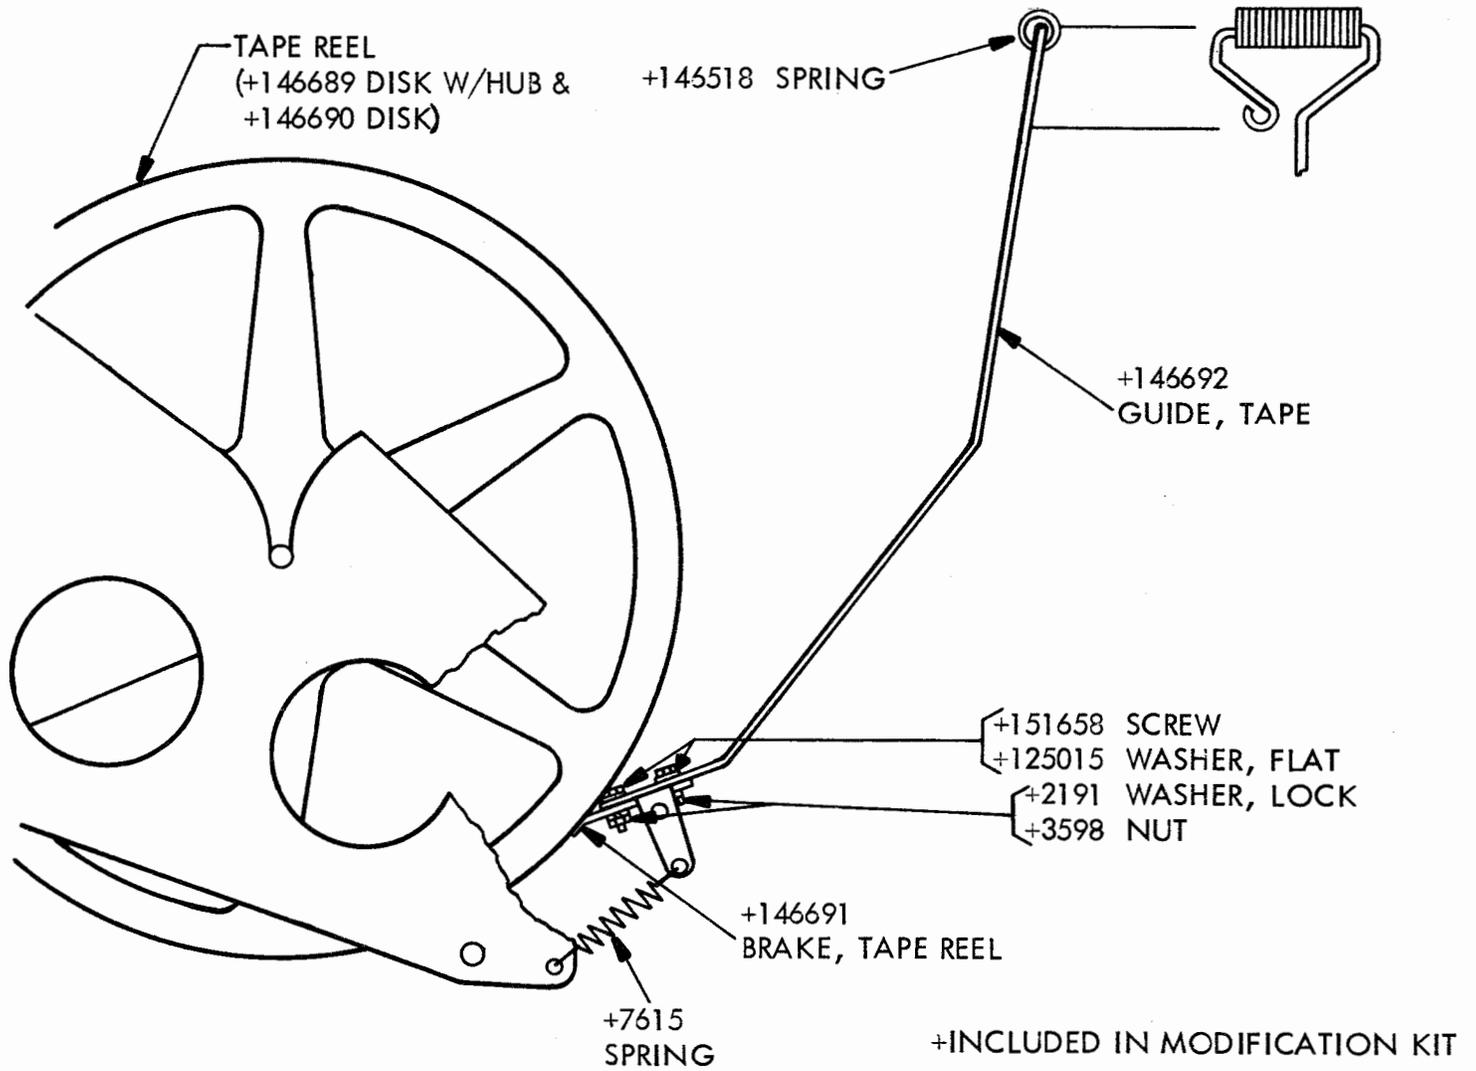
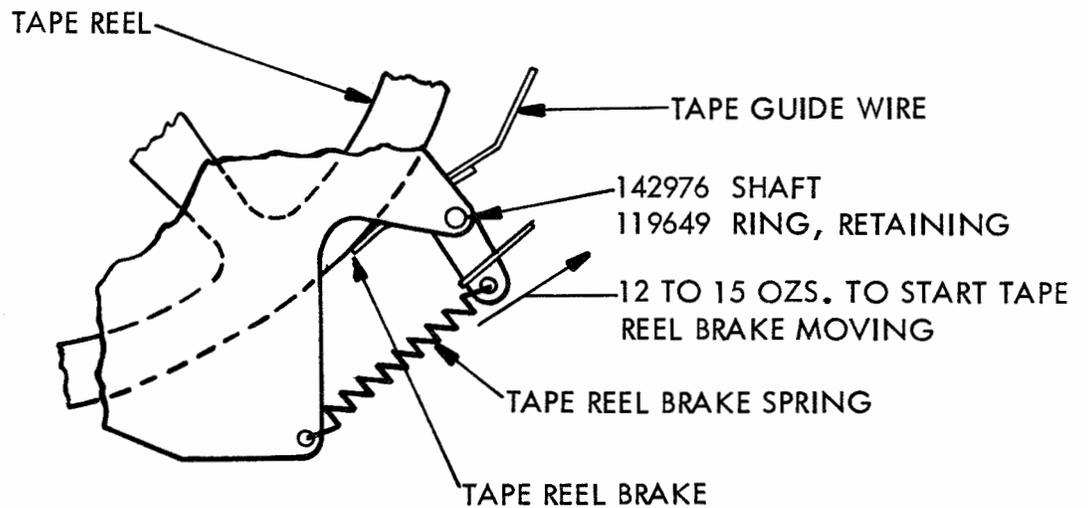

FIGURE 2
FIGURE 3
f. Assemble the 146518 Spring to the 146692 Tape Guide as shown in Figure 2. Secure the 146692 Tape Guide to the 146691 Brake using the two 151658 Screws, 125015 Washers, 2191 Lock Washers and 3598 Nuts. See Figure 2.
m. Install the new brake assembly using the 142976 Shaft and 119649 Retaining Ring retained in Paragraph 2.e. See Figure 3. Hook the 7615 Spring to the brake and the 124375 Front Plate as shown in Figure 2.
n. Place the tape reel (146689 Disk w/Hub and 146690 Disk assembled) in the tape reel retainer assembly. See Figure 2.
- (1) Low Tape Contacts.
- (2) Low Tape Contact Bracket.
- (3) Tape Reel Brake Spring Requirement (See Figure 3 of Specification).
- (4) Low Tape Lever - When using five-level (11/16 inch) tape, form the "low tape lever" slightly to the right (as viewed from the front of the unit) to avoid the possibility of the lever falling between the roll of tape and the left reel rim.